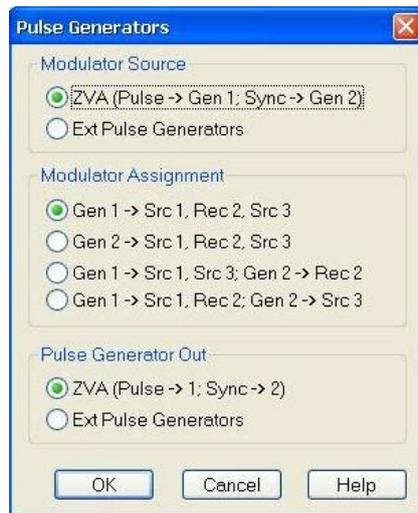

Figure 8: ZVAX Path Configuration (Pulse Generator)
- b) Press “Pulse Generators” and make sure that the “Modulator Source” and the “Modulator Assignment” settings are as shown in Figure 8.